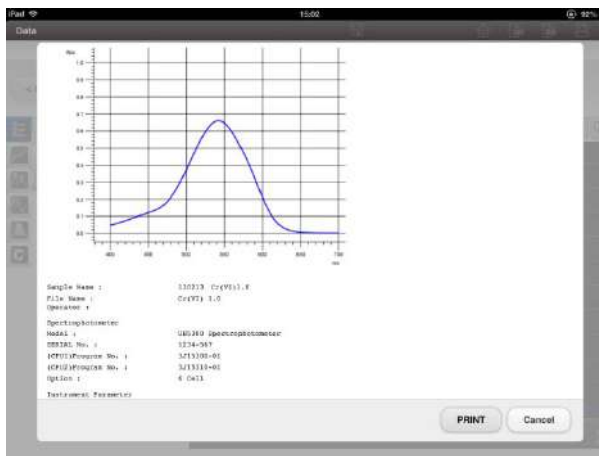

Fig. 4-138 Print Preview Window
- (3) Print preview (Fig. 4-138) will be shown.